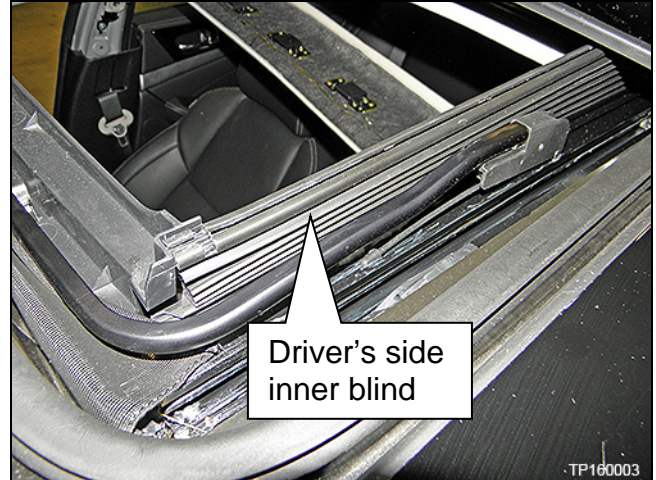

Figure 13
3. Remove the left and right inner blinds (Figure 13).